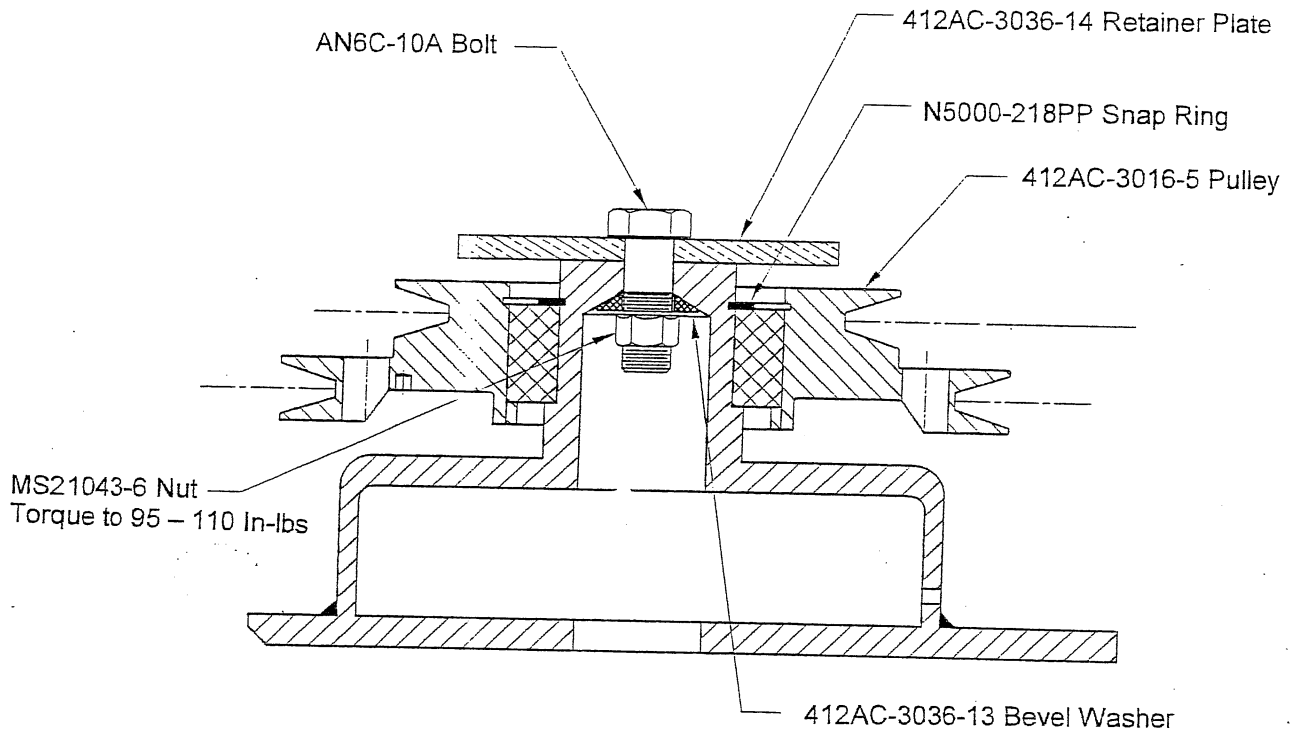

Figure 1, 412 Air Conditioner
6. Remove MS21043-6 Nut from AN6C-10A Bolt in center of the Speed Reducer assembly (figure 1).
7. Remove AN6C-10A Bolt, 412AC-3036-13 Bevel Washer, 412AC-3036-14 Retainer Plate (figure 1).